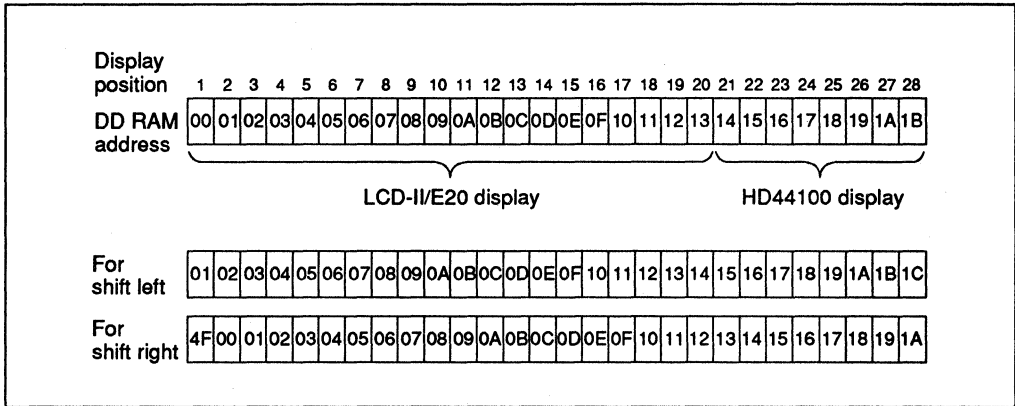

Figure 4 1-Line by 28-Character Display Example
- Case 2: For a 28-character display, the HD66702 can be extended using one HD44100 and displayed. See figure 4.
When the display shift operation is performed, the DD RAM address shifts. See figure 4.